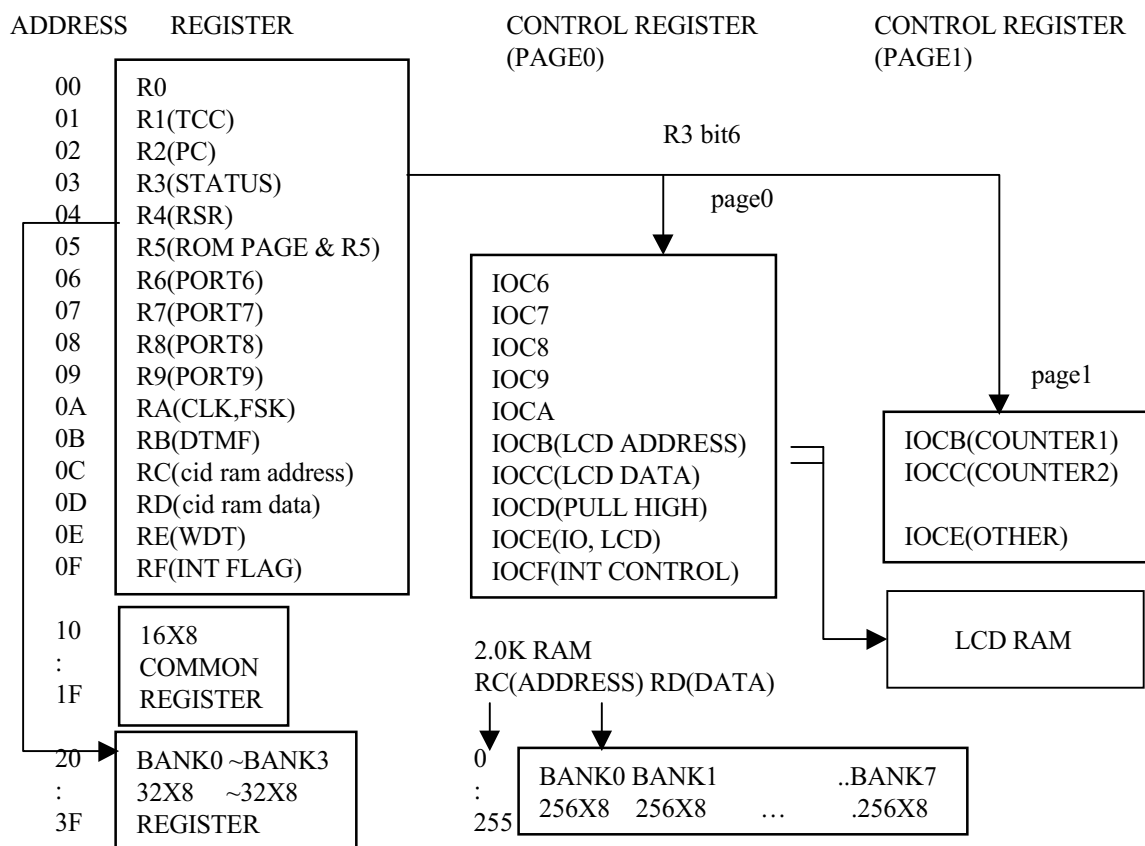

Fig.5 Data memory configuration
- \* See the configuration of the data memory in Fig. 5.